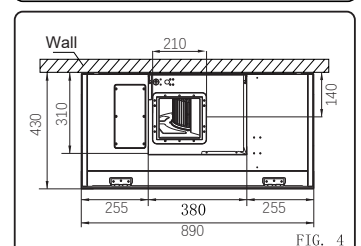

FIG. 4
Range hood and kitchen cabinet reference combination size (FIG. 4)
1. First, open the glass panel, and then hold the oil guide plate with both hands to push upward, the oil guide plate can be taken down;(figure 4)